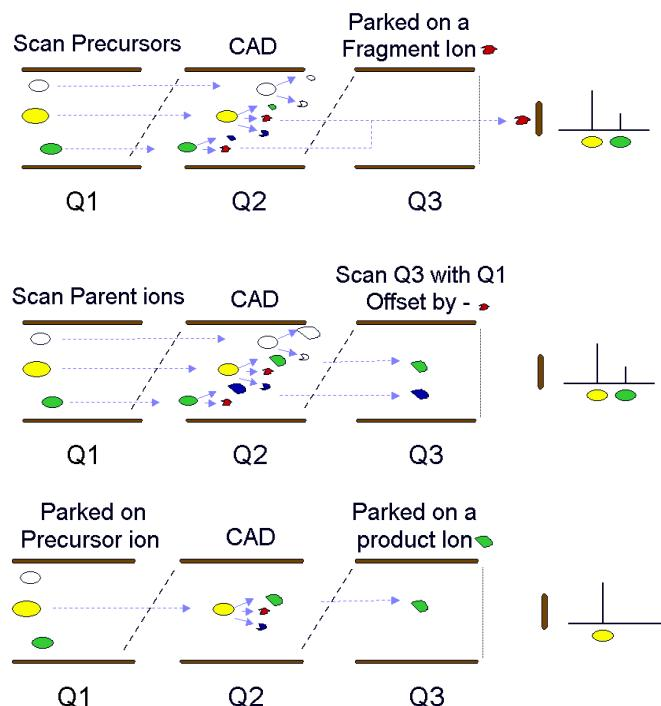

Figure 4. Triple Quadrupole Scan Types. Top – Precursor Ion scan. Middle – Neutral Loss scan. Bottom – MRM scan.
The triple quadrupole functionality of this instrument allows analyte quantitation to be performed at very high specificity and sensitivity using Multiple Reaction Monitoring (MRM). MRM (also known as Single Reaction Monitoring, SRM) is the scan type with the highest duty cycle and is used for monitoring one or more specific ion transition(s) at high sensitivity. Here, Q1 is set on the specific parent m/z (Q1 is not scanning), the collision energy is set to produce the optimal diagnostic charged fragment of that parent ion, and Q3 is set to the specific m/z of that fragment (Figure 2 and Figure 4, bottom). Only ions with this exact transition will be detected. Because of the speed of the LINAC® Collision Cell, many MRM scans can be looped together into one experiment to detect the presence of many specific ions in a complex mixture. Up to 4000 MRM transitions can be monitored within a single experiment and up to 500 MRMs can be monitored per second.
When an ion loses a diagnostic fragment as a charged fragment, it can be detected by using a Precursor Ion scan. In this scan type, Q1 is scanned across a mass range, and ions are fragmented in the collision cell. Q3 is set to transmit only the mass of the diagnostic fragment ion to the detector. Therefore, only ions that are passed through Q1 that fragment to produce the diagnostic charged fragment ion will be detected (Figure 4, top).
When an ion loses a diagnostic fragment as a neutral fragment, it can be detected by using a Neutral Loss Scan (NL). In this scan mode, Q1 is scanned across a specific mass range. Ions are passed into the collision cell Q2 where they are fragmented. Q3 is scanned over a similar mass range, offset by the neutral mass of the diagnostic fragment. Therefore, any molecule being passed through Q1, which loses a neutral molecule of the defined mass will then be transmitted through Q3 and detected (Figure 4, middle).